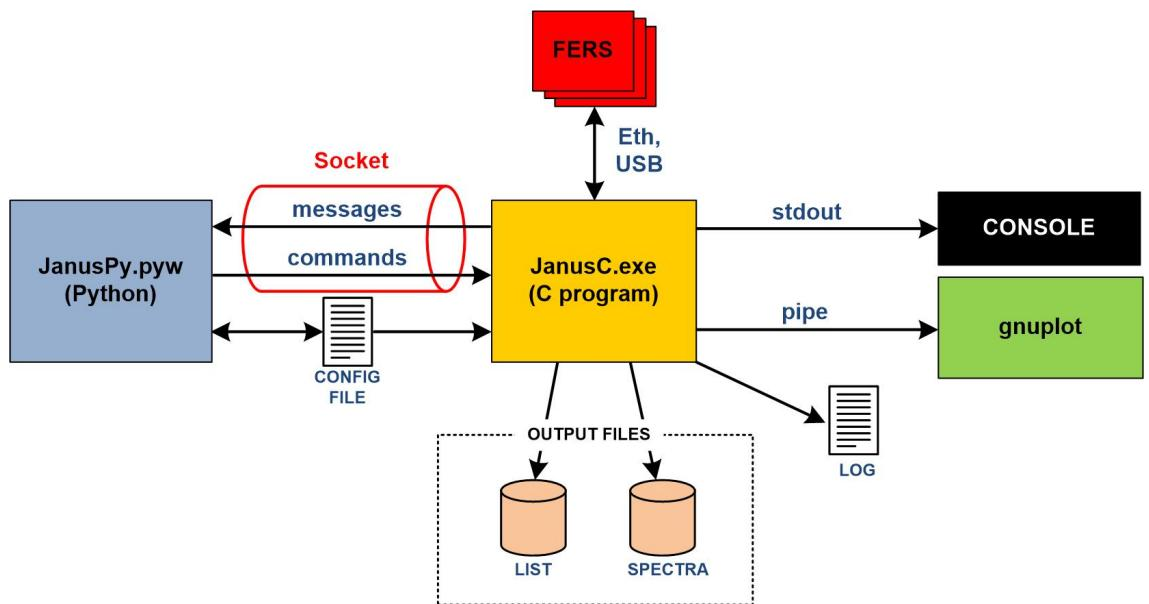

Fig. 1.3: GUI Mode block diagram.
- **GUI Mode:** In this case, the user only have to run the Python program "JanusPy.pyw", which calls the C program "JanusC.exe" and connects to it via a socket to send commands and receive messages which are then displayed in the Python GUI (see **Fig. 1.3**).